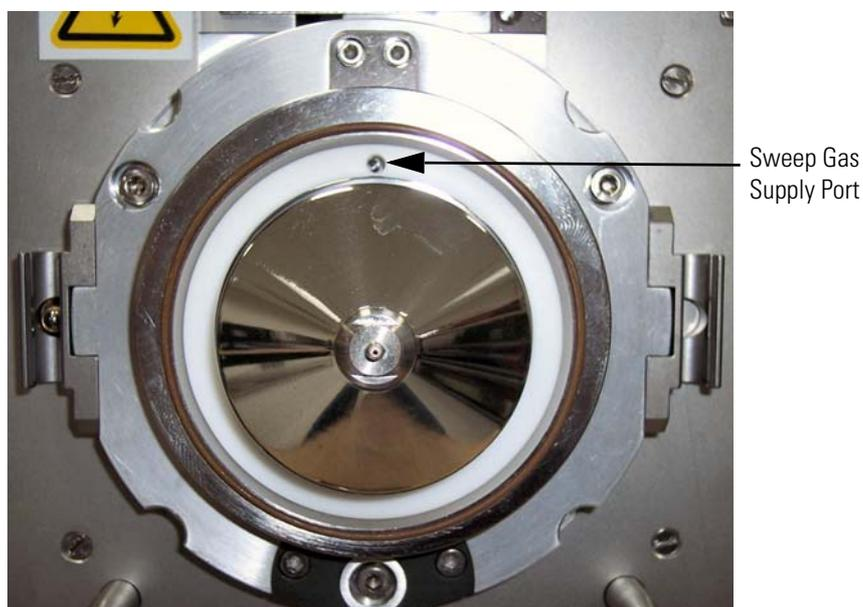
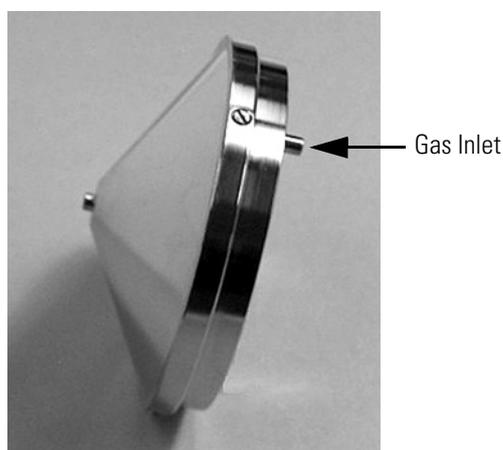

Figure 3-11. Ion source interface, showing the sweep gas supply port in the API cone seal
Figure 3-12. Ion sweep cone, showing the gas inlet
- Align the gas inlet on the ion sweep cone with the sweep gas supply port on the ion source mount. Firmly press the ion sweep cone into ion source mount. See Figure 3-11 and Figure 3-12.